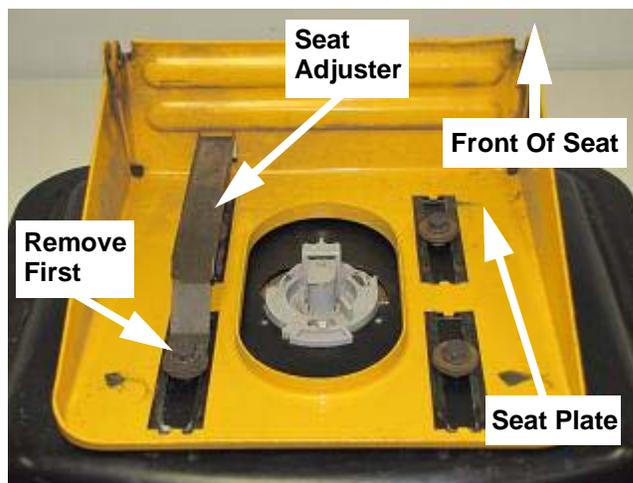

FIGURE 2
7. Remove the left rear 5/16-18 x .75" hex washer screw as shown in Figure 2.